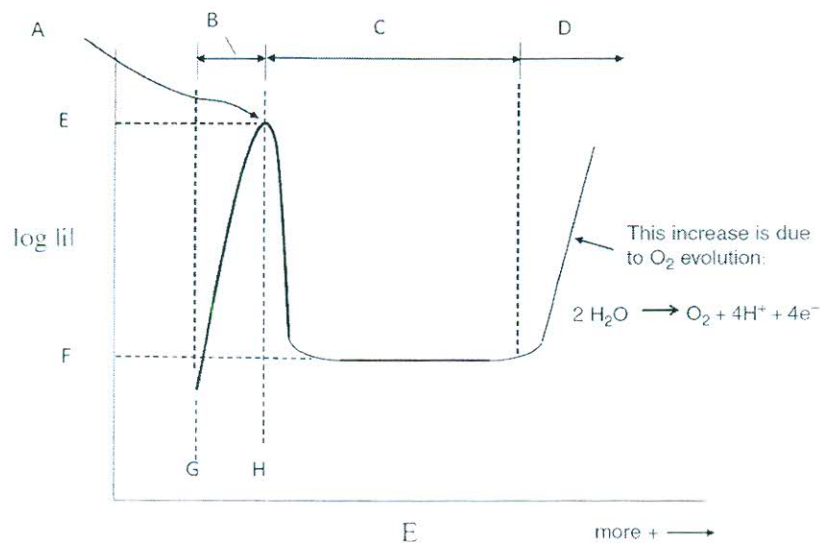

Figure 3 – Anodic polarization curve of metal M
- (ii) Figure 3 illustrates a typical anodic polarization curve of metal M. Label and discuss the parameters from A to H.